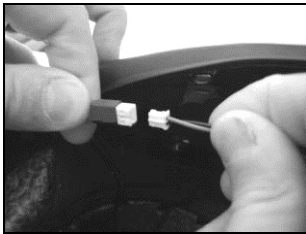

Fig. 26
- Connect the battery to the wiring system (Fig. 26).